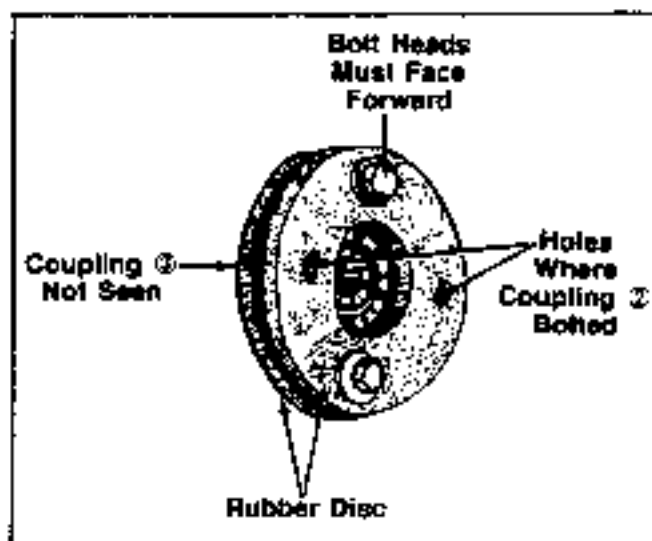

FIGURE 8.
11. Remove the bolts and nuts on coupling ②: reverse the bolts and nuts so that all bolt heads are facing forward (to the front of the tractor). See figure 8. Units with serial no. 756,301 and above will already have bolt heads facing forward.